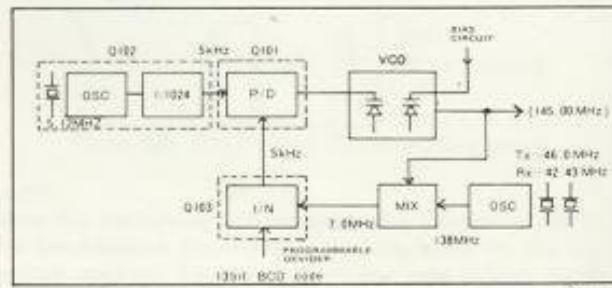

Fig. 2
- (1) Signals to be applied to 1/N circuit are frequency deviated at a predetermined count down ratio, and signals thus deviated are fed to the phase detector circuit via the 1/N circuit.
- (2) Until reference signals and 1/N circuit signals coincide within the phase detector circuit, repeated controls are exercised within the Fig. 2 loop.
- (3) When reference and 1/N circuit signals coincide, it is called a locked state.